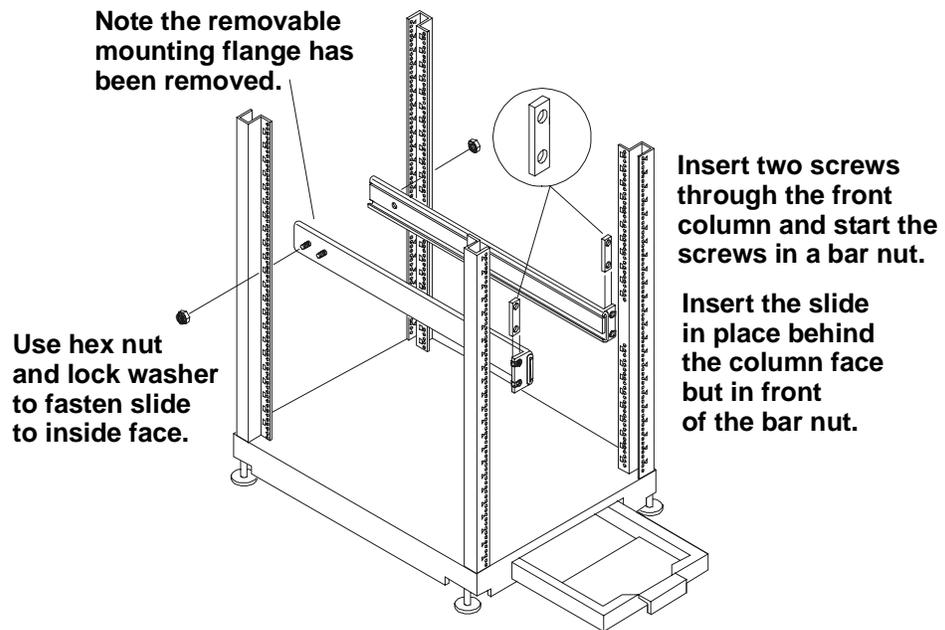

Figure 13-5. Attaching the Slides
3. Hold the slide so the slide members extend out the front of the rack (see Figure 13-5).